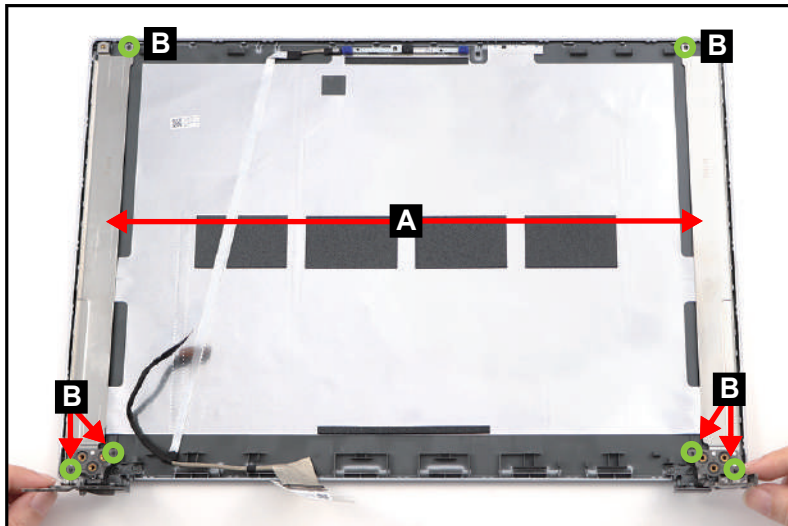

Figure 3-88. Replacing the LCD Hinges
1. Place the left and right LCD hinges (A) on the LCD cover (Figure 3-88).
When installing the LCD hinges, make sure they are properly aligned with the guide pins (B) and placed onto their designated locations as shown in Figure 3-88.